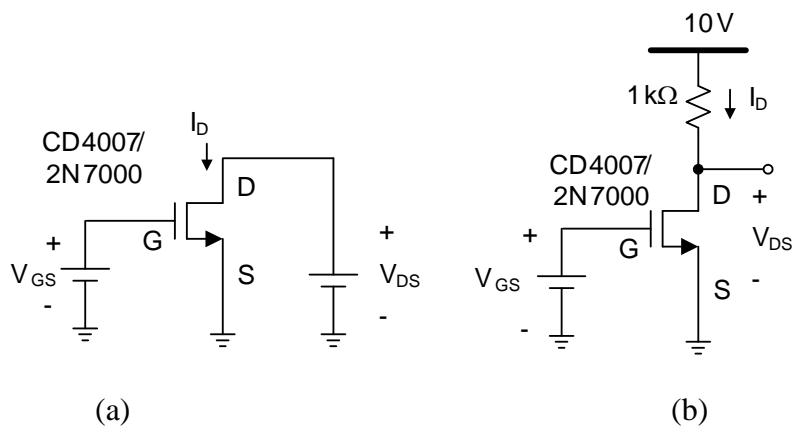
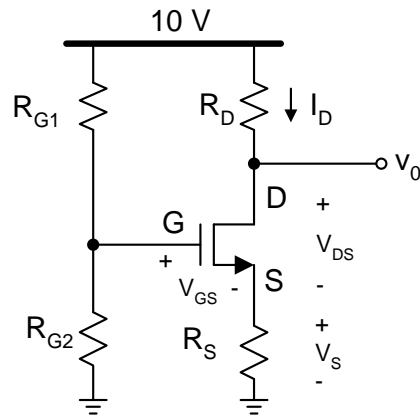

Fig. 2. (a) PSpice simulations setup (b) Schematic used for measuring the n-channel MOS transistor characteristics and small signal parameters.
Fig. 3. MOSFET based amplifier: circuit 2
A simple biasing scheme for the n-channel MOSFET is shown in Fig. 2. Use $V_{DD} = 10$ V. Find β_n , λ_n and V_{tn} . For PSpice simulations, your TA or instructor will provide you with the necessary model files and a guide on adding them to PSpice.
1. Set up your circuit in PSpice as shown in Fig. 2(a) using first the CD4007 MOS transistor.
Unfortunately, the biasing scheme of Fig. 2 is very sensitive to changes in the MOSFET characteristics because there is no means of stabilizing the biasing point. A better biasing scheme is shown in Fig. 3. In this circuit, an increase in the drain current causes an increase in the source voltage. If the gate voltage is constant, then the value of V_{GS} decreases opposing the original increase in drain current causing the bias point to be stabilized. There is an inherent feedback mechanism behind the source resistance R_s .
- Construct the circuit shown in Fig. 3 in PSpice using the CD4007 MOSFET. Using the parameters found in the previous steps, find the resistors such that the transistor is biased at $I_D = 1 \text{ mA}$ and $V_{DS} = 2 \text{ V}$, and $R_D/R_S = 10$. The parallel combination of R_{G1} and R_{G2} should be greater than $100 \text{ k}\Omega$. For your calculations you can ignore λ_n . Simulate your results. Repeat for the 2N7000 MOSFET with $I_D = 20 \text{ mA}$ and keep all other requirements the same.
- Using the CD4007, connect the circuit of Fig. 2(b); the $1 \text{ k}\Omega$ resistor will limit I_D to 10 mA and keep the V_{DS} voltage greater than or equal to V_{GS} for a wide range. Sweep V_{GS} from 0 V up to a voltage such that $I_D = 5 \text{ mA}$. Record the results for at least 20 different values with emphasis around the expected V_{tn} . Plot the results in the I_D - V_{GS} plane.
- Using the CD4007, connect the circuit of Fig. 3 and use the values obtained in the pre-lab. Measure the operating point (I_D , V_S and V_D) and compare these values with PSpice results. Comment on any